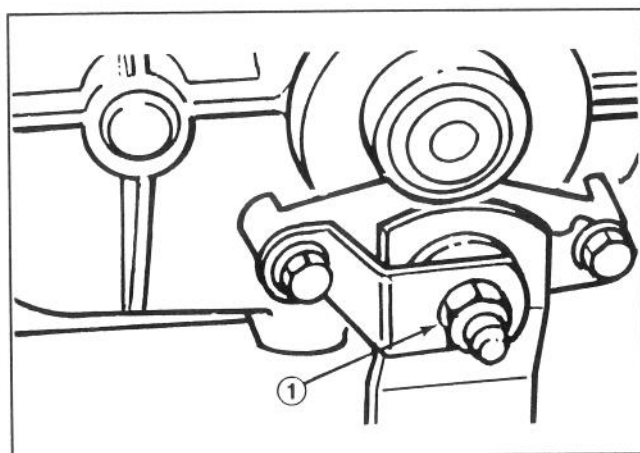

Figure 24
3. Tighten the locknut approximately 1/4 of a turn clockwise (Fig. 24).